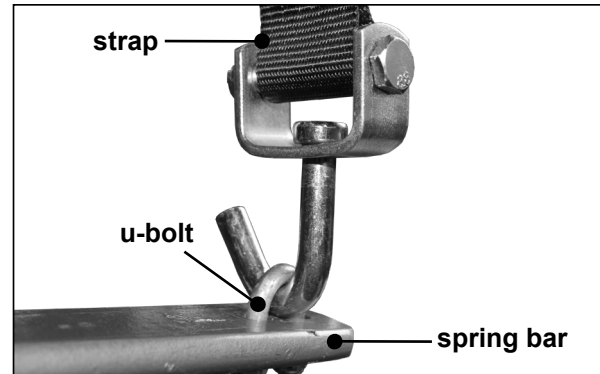

Fig. 2
2. Place the strap hook through the spring bar u-bolts and tighten u-bolt nuts with ratchet and 9/16" socket (Fig. 2).